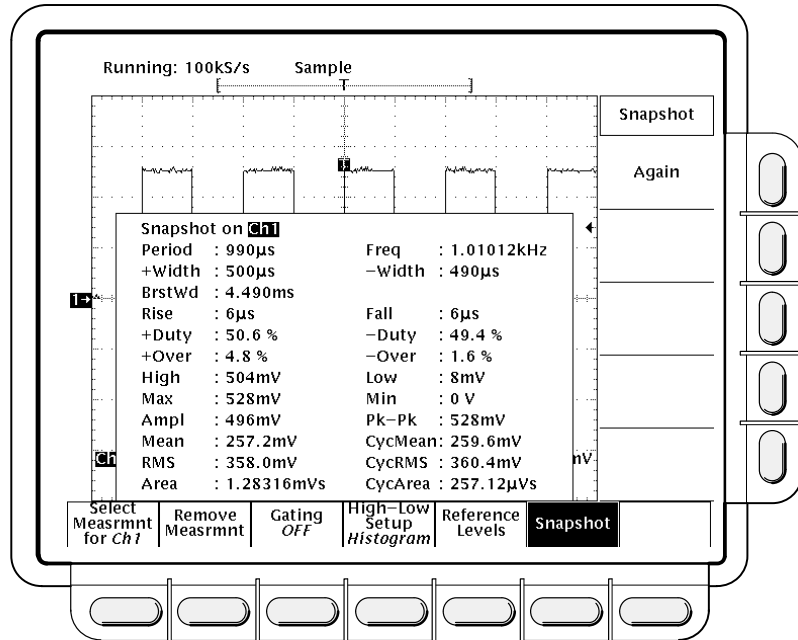

Figure 1-17: Snapshot of Channel 1
1. Press **Snapshot** (main) to pop up a snapshot of all available single waveform measurements. (See Figure 1-17.)